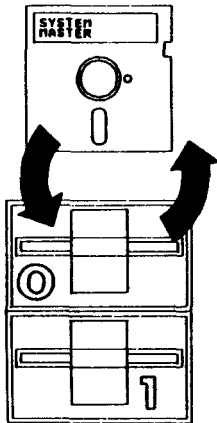

Fig 1
- 2 Starting with the second processor, switch on all the equipment, insert the System Master disk in Drive 0 (see Fig 1), leaving the drive flap open.